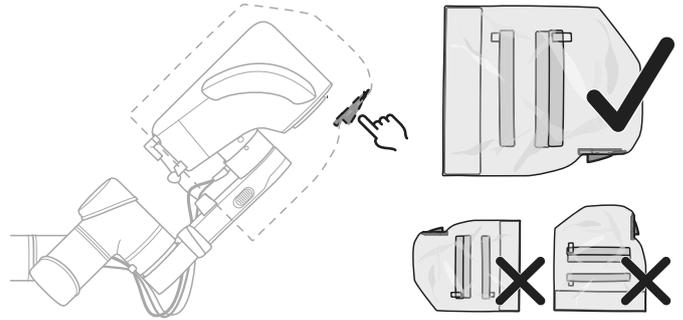

Fig. 17
- ▶ Notice the correct position of the drape lens, see Fig. 17.